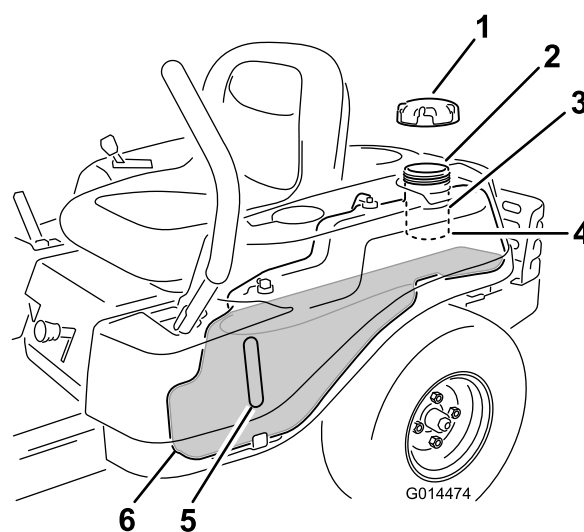

Figure 10
Note: You can use the fuel window on the pod verify the presence of gasoline before filling the tank (Figure 10).
2. Slowly add regular, unleaded gasoline until the fuel reaches the base of the filler neck (Figure 10).